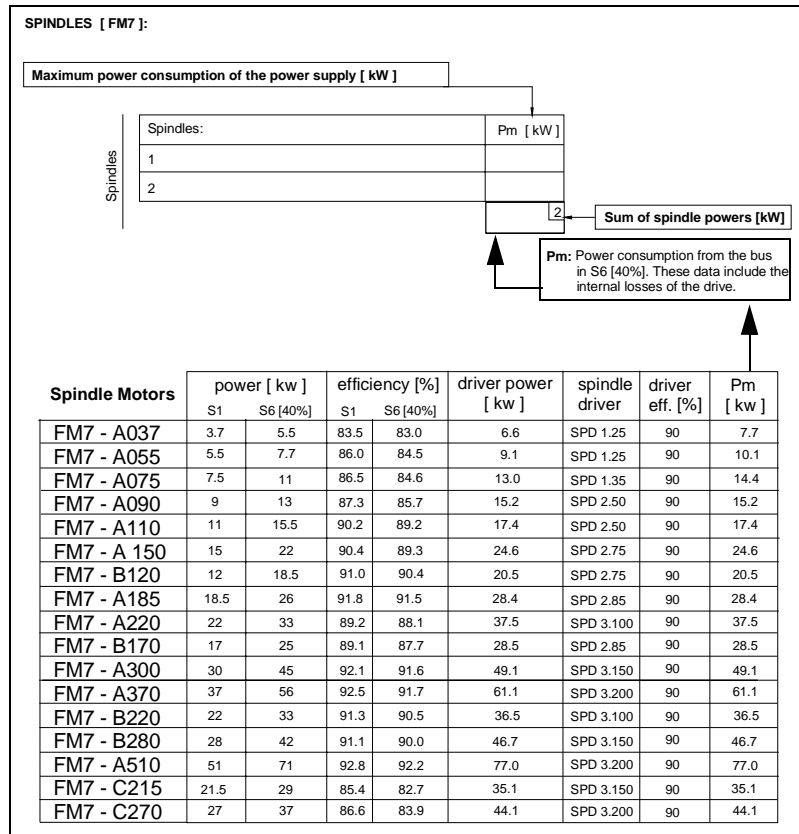

fig. 15 Select the power supply according to the power required by asynchronous motors FM7
Very important: When using an isolating transformer, the secondary must have a star connection and its mid point must be accessible so it can be connected to ground. This means that the output voltage of the transformer/autotransformer is maintained for the indicated apparent power. **Note that** if the system has an **XPS power supply**, the rated power Pm of cell (2) of the previous expression corresponds to the sum of the Pm's of all the spindles of the system, whose value is the result of applying the expression **Pm = 570 · IS6** for each of them and then adding them all. **If it is a PS power supply**, cell (2) will register the value obtained from the figure 14 or figure 15 accordingly.